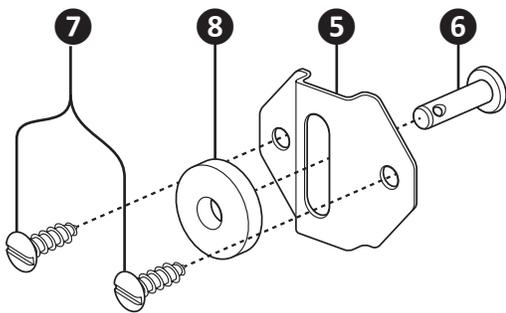
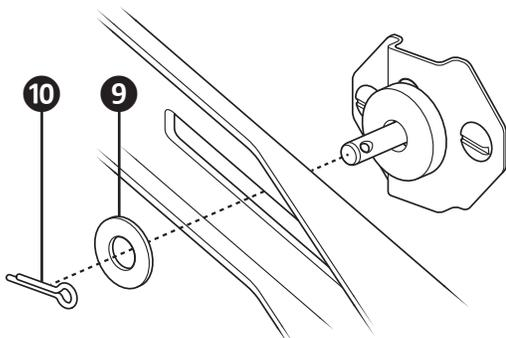

figure 2
figure 3
2. With the **Bracket Hinge** attached and the door or gate closed, swing and hold the **Tie Bar** against the door or gate and trace the outline of the **Tie Bar Plate Slot 4** on to the door or gate. Swing back the **Tie Bar** and mark a vertical line 3/4" back from the end of the slot. Center the **Tie Bar Plate 5** on the 3/4" mark and slot. Mark the location of the two screws and drill 1/8" holes in the door or gate. Insert the **Clevis Pin 6** into the vertical slot in the **Tie Bar Plate** and attach the **Tie Bar Plate** to the door or gate with the two **5/8" Screws 7**. Place **Fiber Washer 8** onto the **Clevis Pin** (figure 2). Swing the **Tie Bar** over the **Tie Bar Plate** so the **Clevis Pin** goes through the **Tie Bar Slot**, place the **Steel Washer 9** onto the pin and install the **Cotter Pin 10** through the hole in the **Clevis Pin** (figure 3).